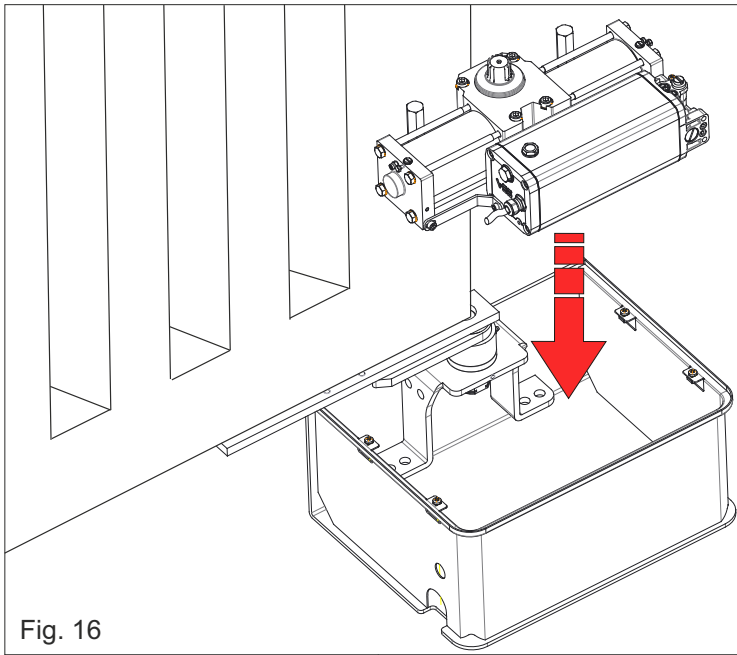

Fig. 16
5.1. Position the operator in correspondence with the supporting box and insert it vertically, making sure it is positioned in the correct direction, as shown in Fig. 16